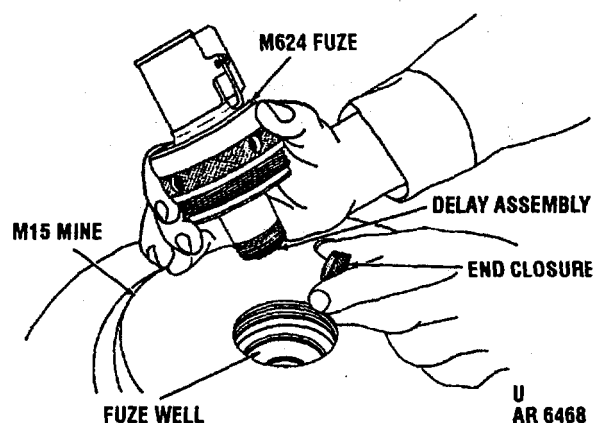

Figure 2-35. Unscrew and remove end closure.
- (13) Unscrew and remove end closure on the M624 fuze (fig. 2-35).